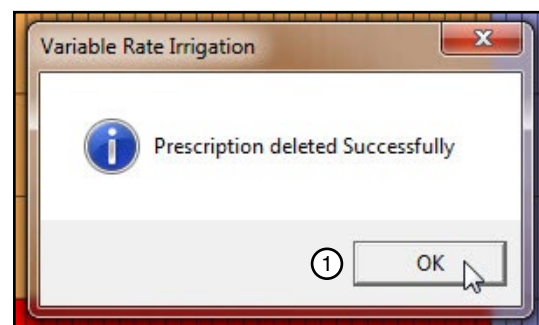

Figure 36-3 1. OK Button
4. Click **OK**. See Figure 36-3.